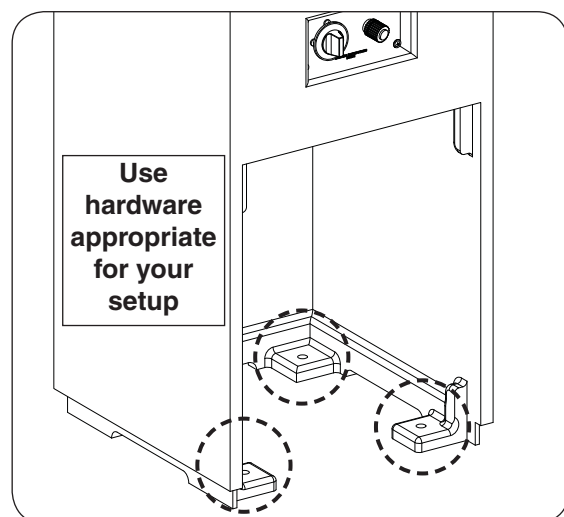

Fig. 15-3 Mount base to floor
2. Using appropriate mounting hardware for the floor material/construction, secure the lantern base into the floor. The interior of the base has four $\frac{1}{2}$ " holes that will allow for the base to be fastened to the floor. See Fig. 15-3.